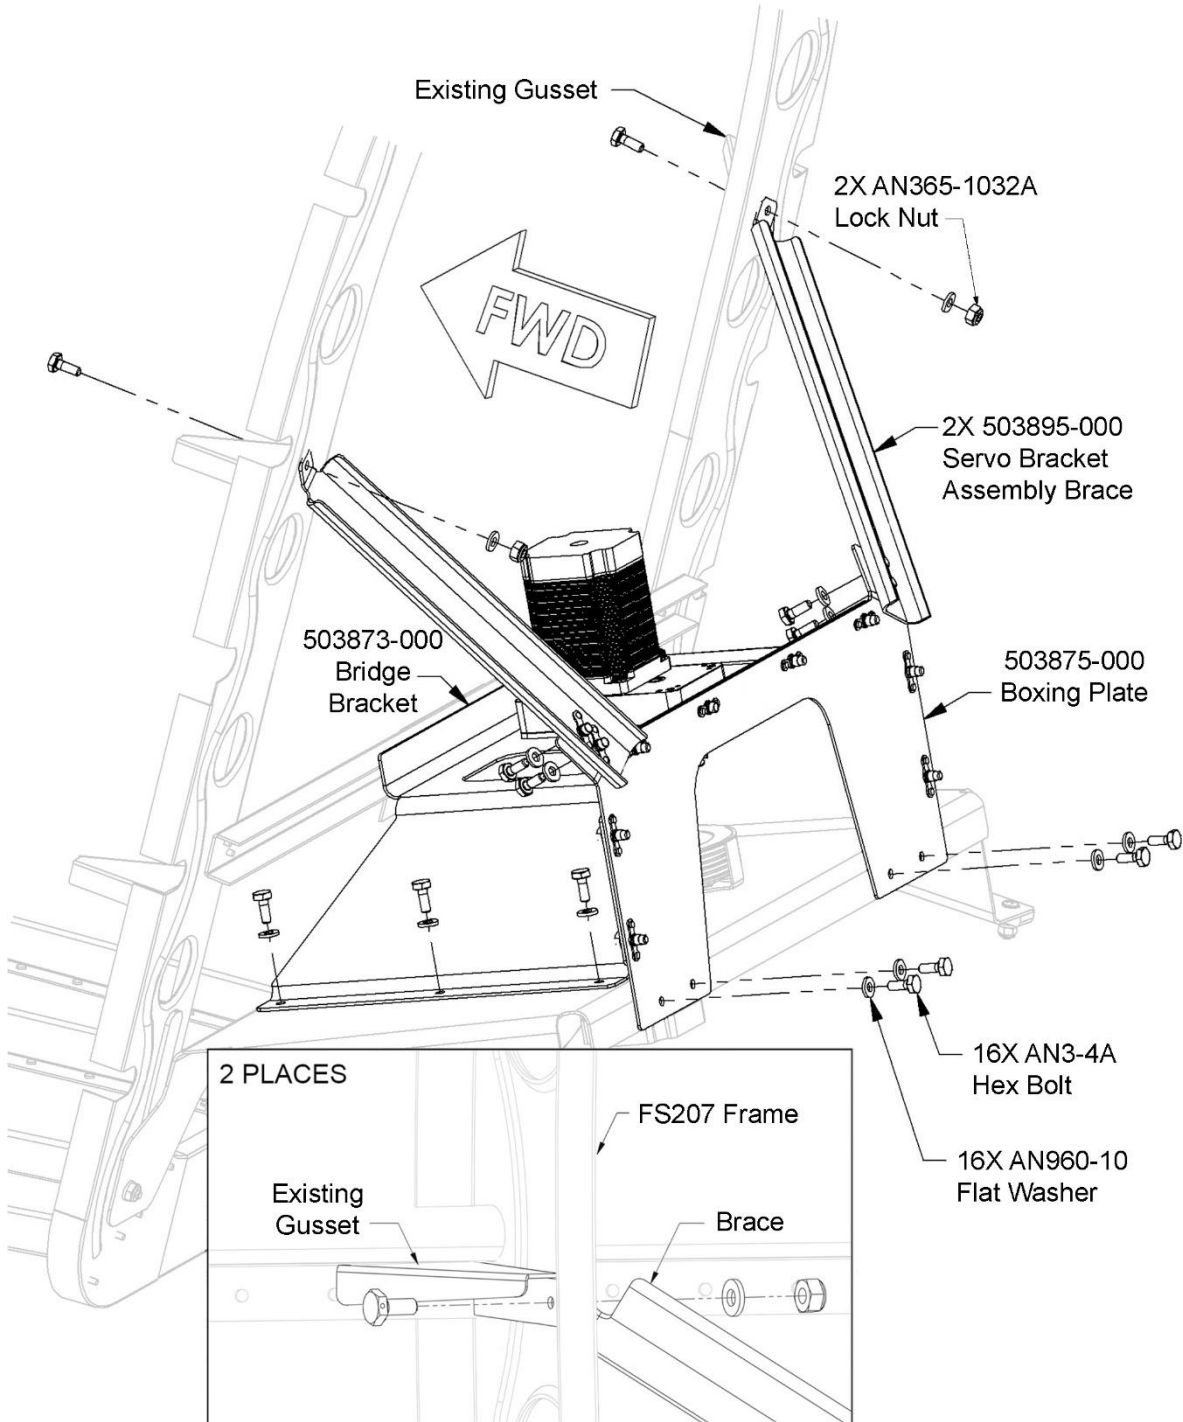

Figure 4: Unfastening Bracket Assembly Braces, Bridge Bracket, and /Boxing Plate.
3. If implementing only the *Bracket Assembly Brace Attachment Fix*, unfasten and remove existing bracket assembly braces (see Figure 4), and then skip to Steps 21-22.
5. Unfasten bracket assembly braces, bridge bracket, and boxing plate, as shown in Figure 4. Keep bracket assembly hardware for re-installation.